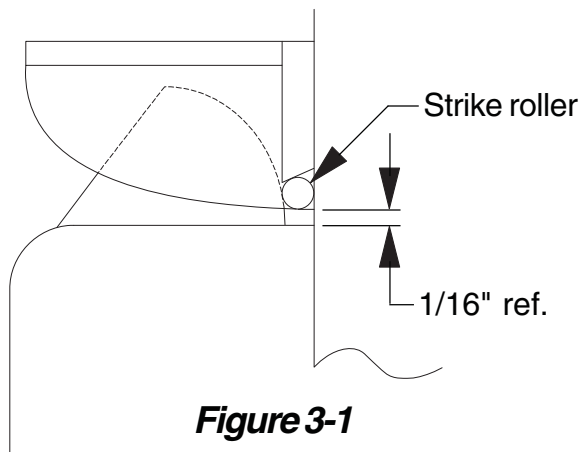

Figure 3-1
- 3.2. Adjust 499F strike to position shown in Figure 3-1.